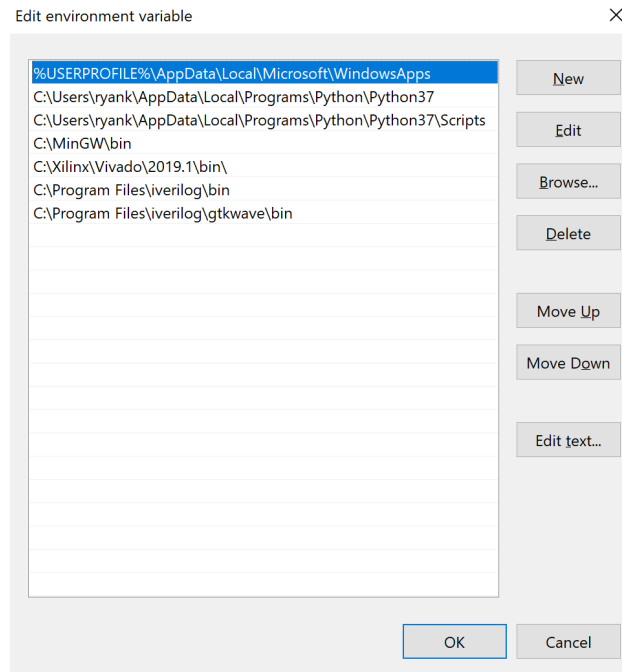

Figure 7: Adding programs to your PATH.
- Click the next empty row and paste the path of the appropriate program (Fig. 7). Hit okay